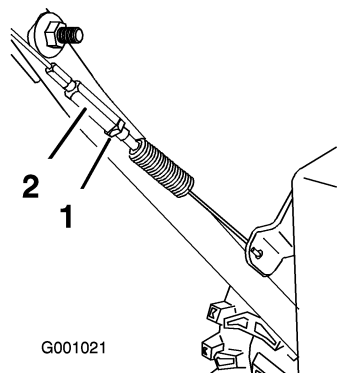

Figure 37
3. Tighten the jam nut (Figure 37).